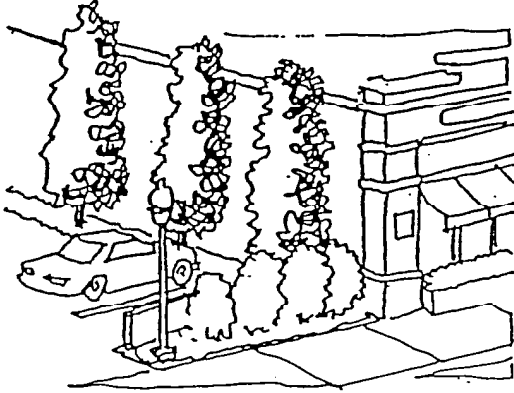

Figure 39
- ☐ Place rows of vertical trees along blank walls. Tree species should grow to the height of the adjacent building wall within a ten year time span. Trees should generally be vertical in shape (e.g., poplar trees). Spacing should insure that a majority of the wall surface at eye level will be covered by landscaping (Figure 39).